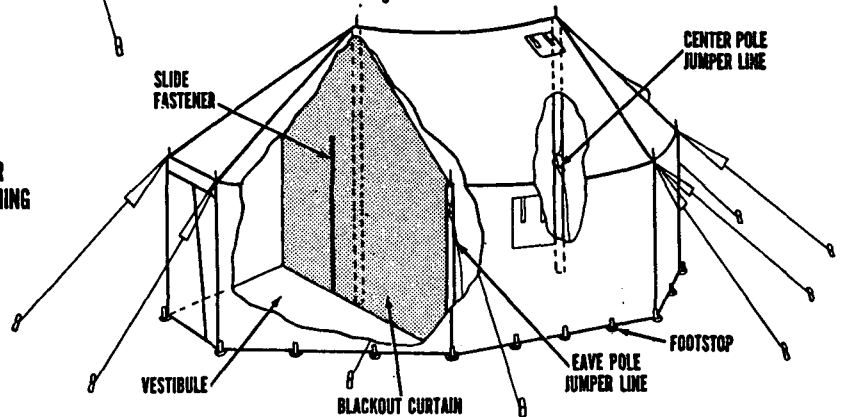
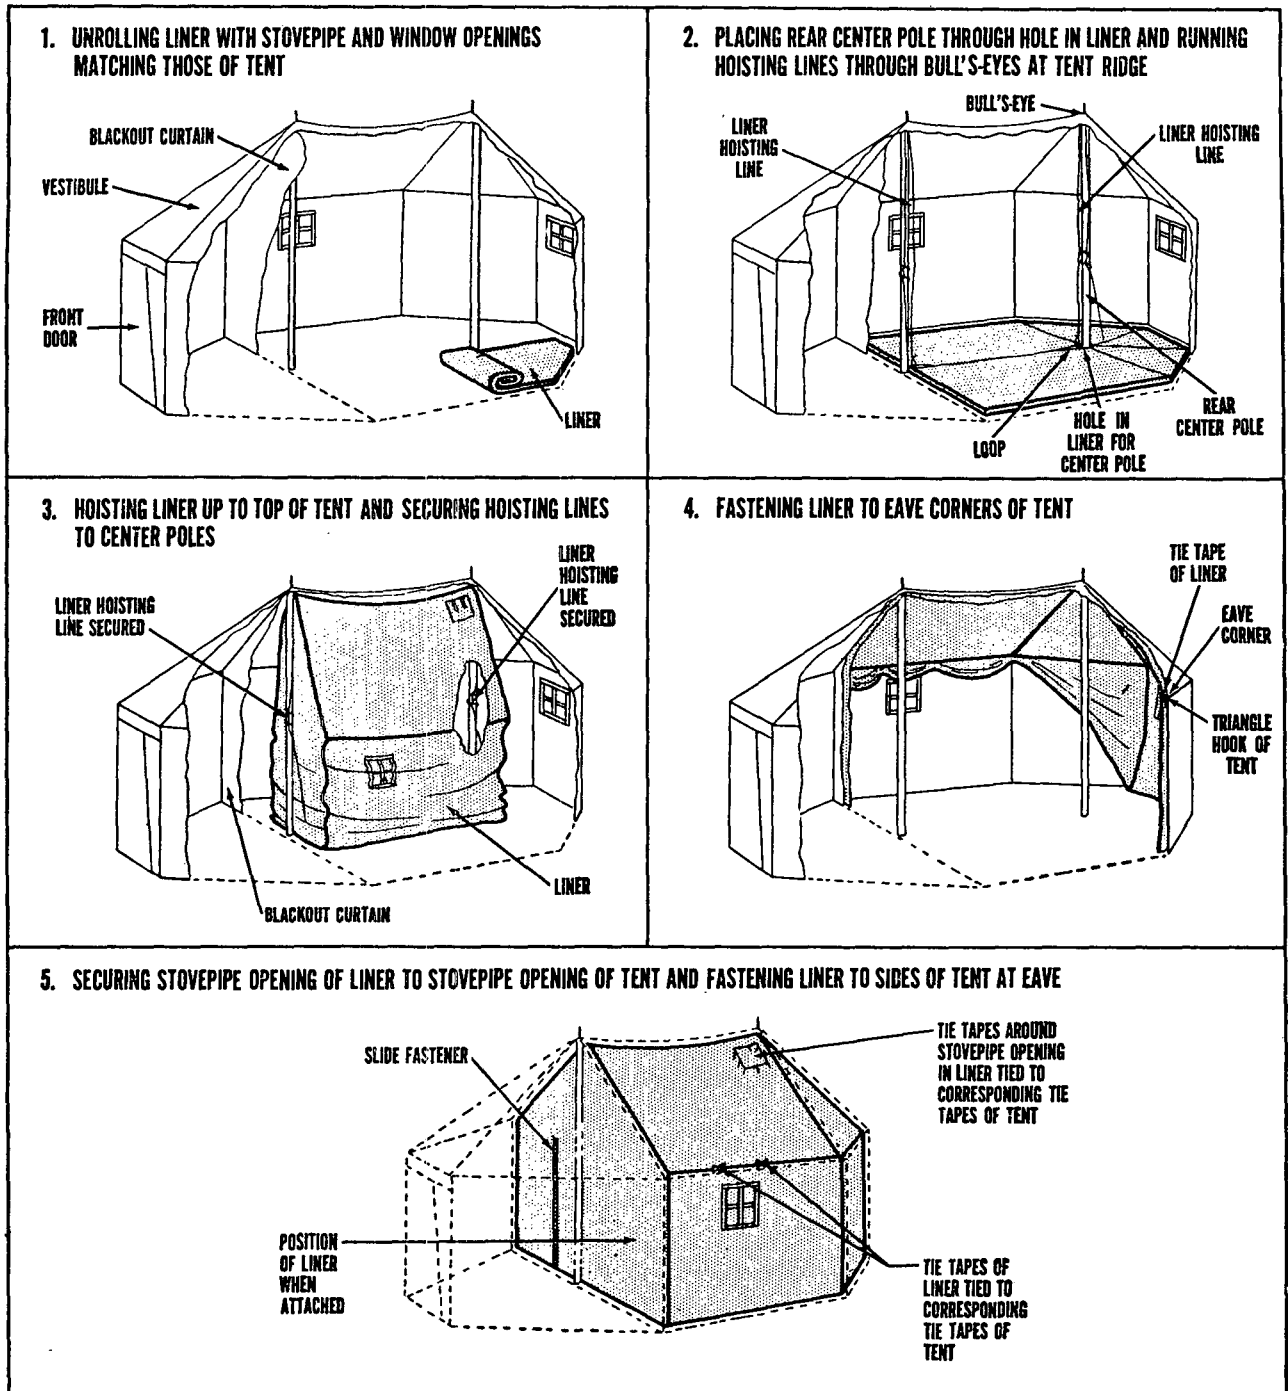

Figure 15. Steps in pitching tent, command post, M-1945.
Figure 16. Steps in attaching liner to tent, command post, M-1945.
(4) *Blackout curtain.* A nondetachable blackout curtain, with a slide fastener opening (5, fig. 15), is sewed into the body of the tent. The curtain separates the vestibule from the main part of the tent. When the tent is used for a first-aid station, the vestibule space between the door and the blackout curtain is large enough to allow
- (b) Drive a 16-inch pin at each of the eight tent corners. Attach a footstop to each of the four corner pins at front and rear of tent. At each of the four side corners, attach two footstops to one pin (1, fig. 15).
- (d) Attach guy lines loosely to long pins (2, fig. 15).
- (e) Remove corner footstops from 16-inch pins, insert eave poles through eave grommets, and tighten guy lines until poles are vertical (3, fig. 15).
other 9-foot pole through hole in metal plate and grommet in other end of ridge (4, fig. 15).
- (g) Secure jumper lines to center poles and to eave poles with two half hitches (5, fig. 15).
- (2) *Attaching liner to tent.*
- (a) Unroll liner so that stovepipe and window openings match those of tent (1, fig. 16).
- through bull's-eyes at tent ridge (2, fig. 16).
- (c) Hoist liner up to top of tent and secure lines to center poles (3, fig. 16).
- (d) Fasten liner to eave corners of tent by tying tie tapes of liner to triangular hooks of tent (4, fig. 16).
stovepipe opening of tent. Tie tie tapes at sides of liner at eave to corresponding tie tapes at sides of tent at eave (5, fig. 16).